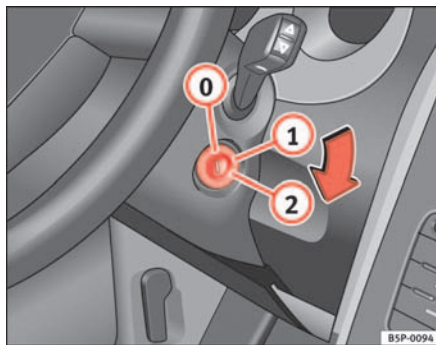

Fig. 95 Ignition key positions
In the position ⇒ fig. 95 the ignition and the engine are OFF and the steering may be locked.
- Turn the ignition key to position ⇒ page 127, fig. 95 ①. The indication lamp  will light for engine pre-heating.
- When the warning lamp goes out, turn the key to position ② to start the engine. Do not press the accelerator.
- Turn the ignition key to position ⇒ page 127, fig. 95 .